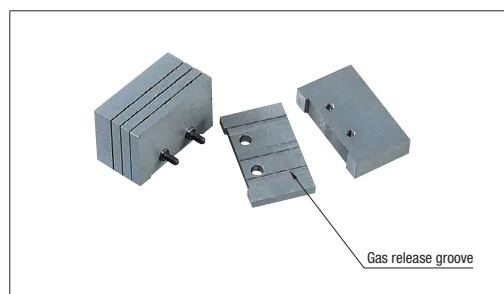

Fig.1
- A specific number of plates given gas release groove (S) processing is combined to make a gas release cavity insert block. (Figure 1)